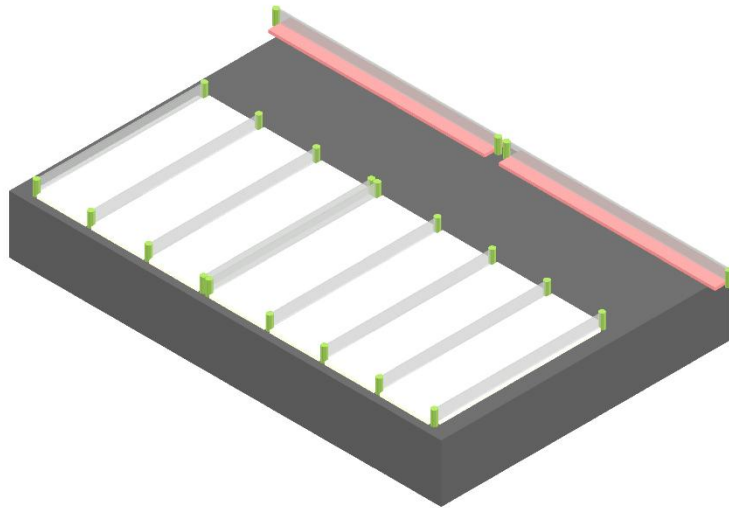

Figure 3: 3D schematic of the field
- D. As shown in Figure 3, which is a 3D schematic of the field, the actual field has each lane separated by nets. Because the nets have fixed points on the platform board, there will be a 3-4cm wide groove in the starting area. This is a hint about the actual field and also a small test point for on-site debugging. The competition starting area will guarantee a size of 20cm \* 20cm.